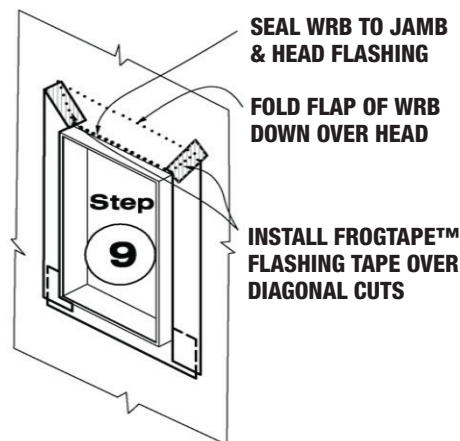

Figure 10 Unfold head flap, seal, and tape in place.
Step 9. Fold down flap of WRB at head over FrogTape Pro Grade Flashing Tape. Seal bottom of WRB flap with flashing tape along full length of window head. Install WRB sheathing tape or FrogTape Pro Grade Flashing Tape over diagonal cuts of the WRB (see Figure 10).